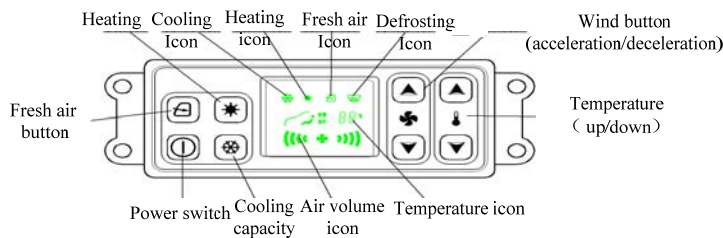

Figure 7
(1) Introduction of the panel (Refer to Figure 7)